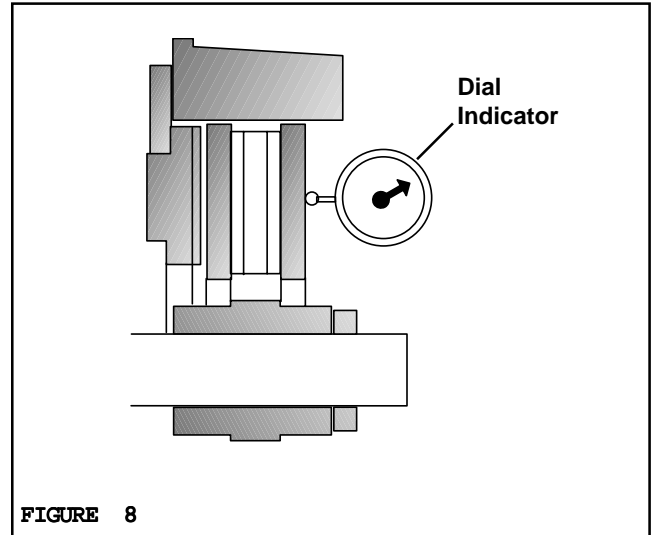

FIGURE 8
4. Remove six Cap Screws (Item 20) and the Cover (Item 13) from the Cylinder (Item 11) (See Figure 8).
5. Remove the Diaphragm (Item 14) (See Figure 8).
NOTE: Internal Compression Springs (Item 41) may also be removed at this time. These springs are optional; the low air pressure setting is more sensitive without the springs (See Figure 8).